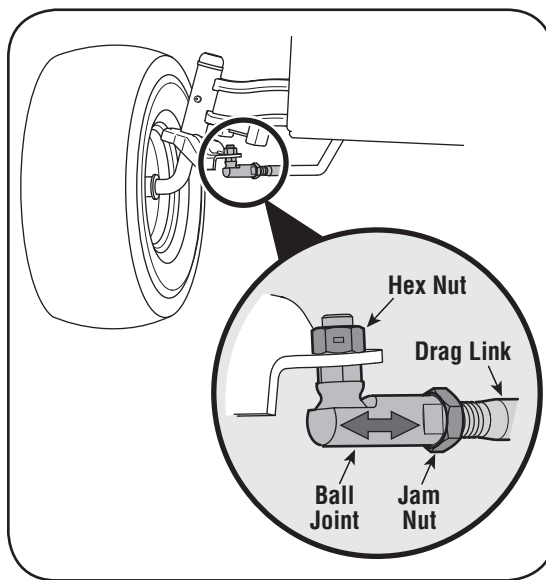

Figure 5-3
- Loosen the jam nut found on the drag link at the rear of the ball joint. See Fig. 5-3.
- Remove hex nut on the top of ball joint. See Fig. 5-3.